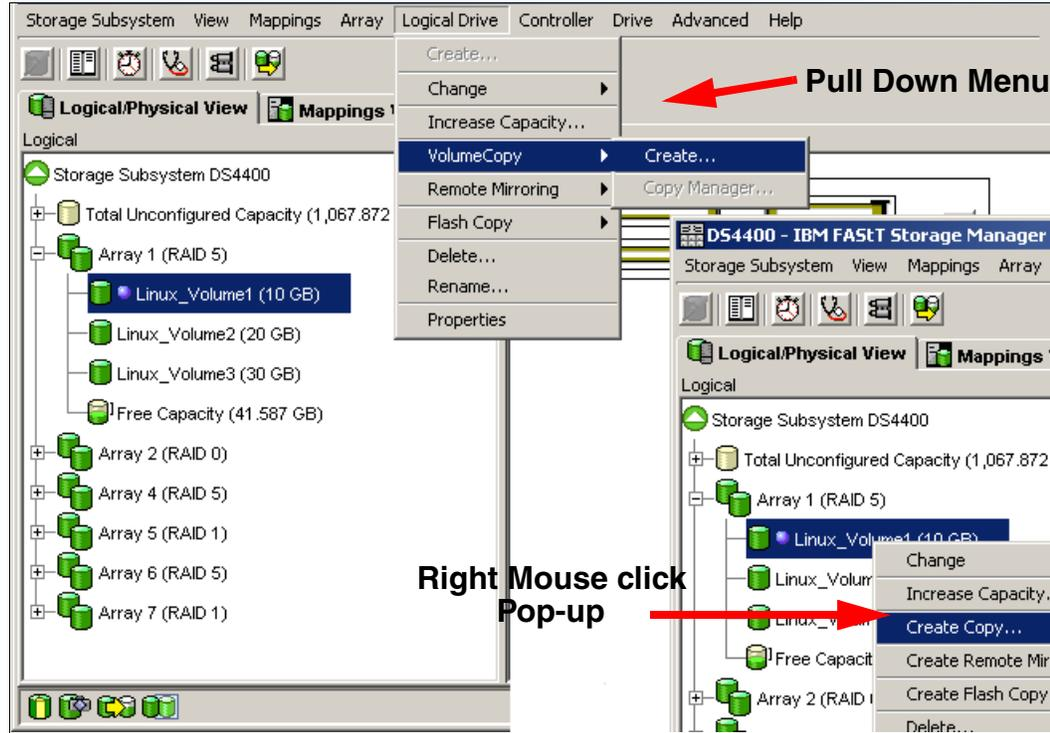

Figure 9-5 Launching create copy wizard from Subsystem Management window
4. Select either the **Logical Drive** → **VolumeCopy** → **Create** pull-down menu option or **Create Copy** from the right-mouse pop-up menu (Figure 9-5).